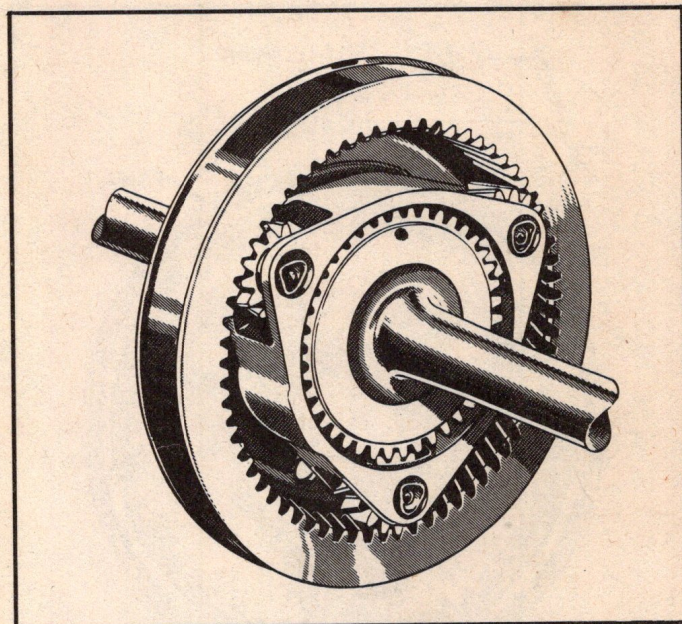

Fig. 10—Neutral—No Member Held—No Members Locked
4. When no member is held and no two members are locked together the planetary gear train will not transmit power, therefore it is in neutral (Fig. 10).